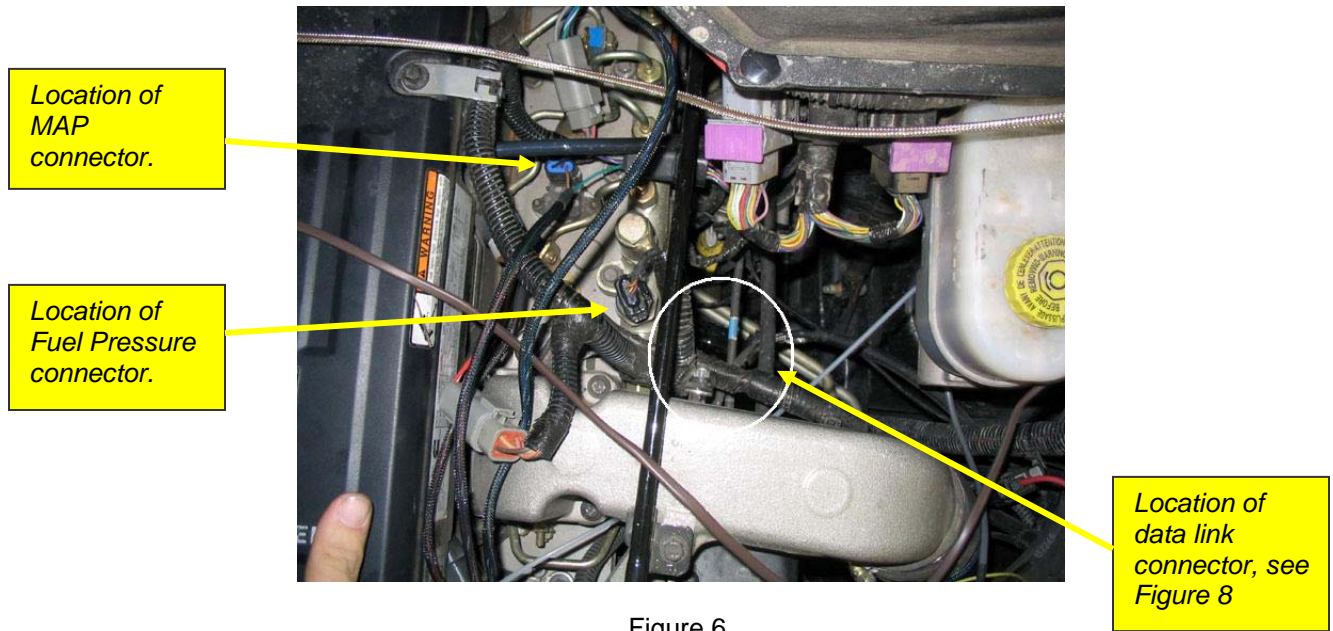

Figure 6.
4. Now install the MAP connector which is between the middle and back injector connectors on top of the motor, see figures 6 & 7.
5. Next, install the data link connector. The data link connector is behind the air intake horn down toward the bottom of the engine (see figures 6, 8, & 9).
6. Connect the Fuel Pressure connector (see figure 6 for location).